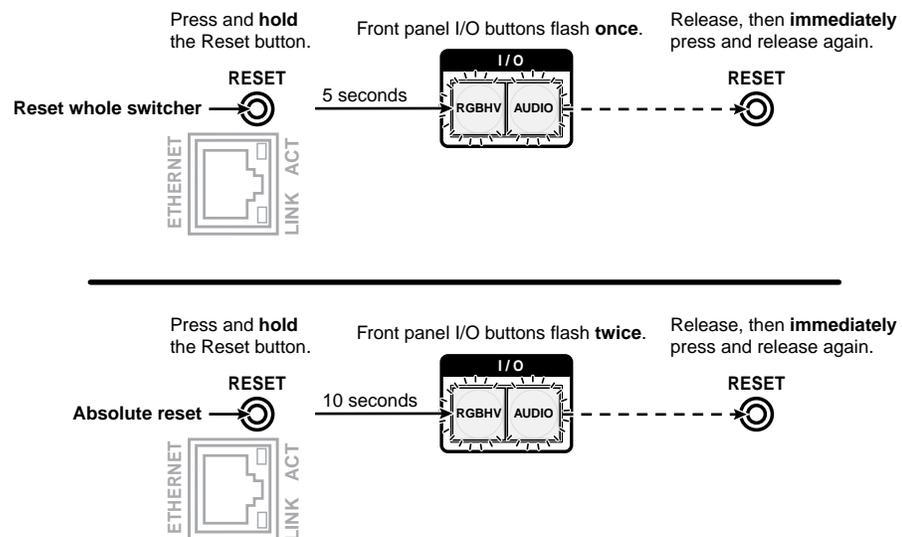

Figure 3-83 — Whole switcher and absolute resets
1. Use an Extron Tweezer or other small screwdriver to press and **hold** the Reset button until the front panel RGBHV and Audio buttons blink once (reset whole switcher) or twice (absolute reset) (figure 3-83).